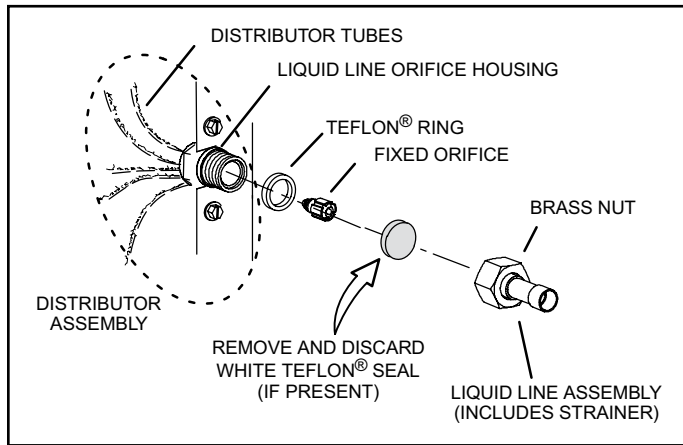

Figure 4. Remove Fixed Orifice (Uncased Coil Shown)
4. Remove and discard fixed orifice, valve stem assembly (if present) and Teflon® washer, as shown in Figure 4.